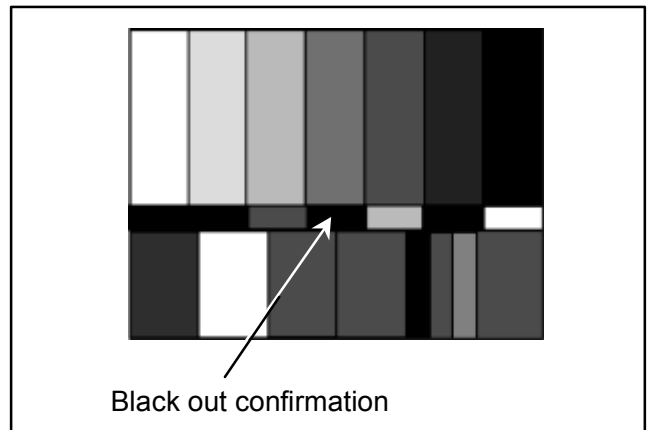

Fig.3 Brightness Adjustment
4. Adjust **RV4** at the point where the brightness of the pedestal portion changes from bright to just dark. (Figure.3)